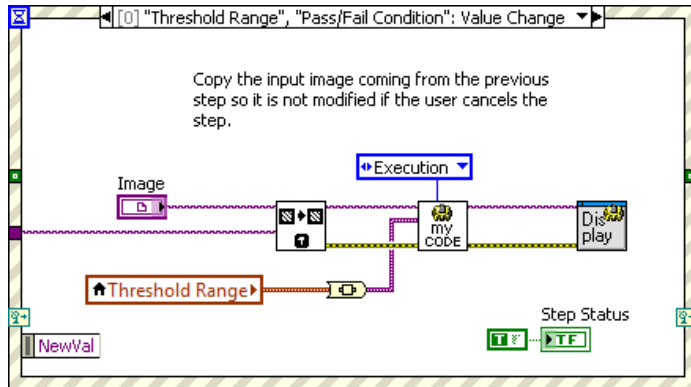

Figure 4-10. Reconnecting the Threshold Range Control
- Connect the Threshold Range variable to the **anything** input of the To Variant function. Figure 4-10 illustrates the modified event structure.